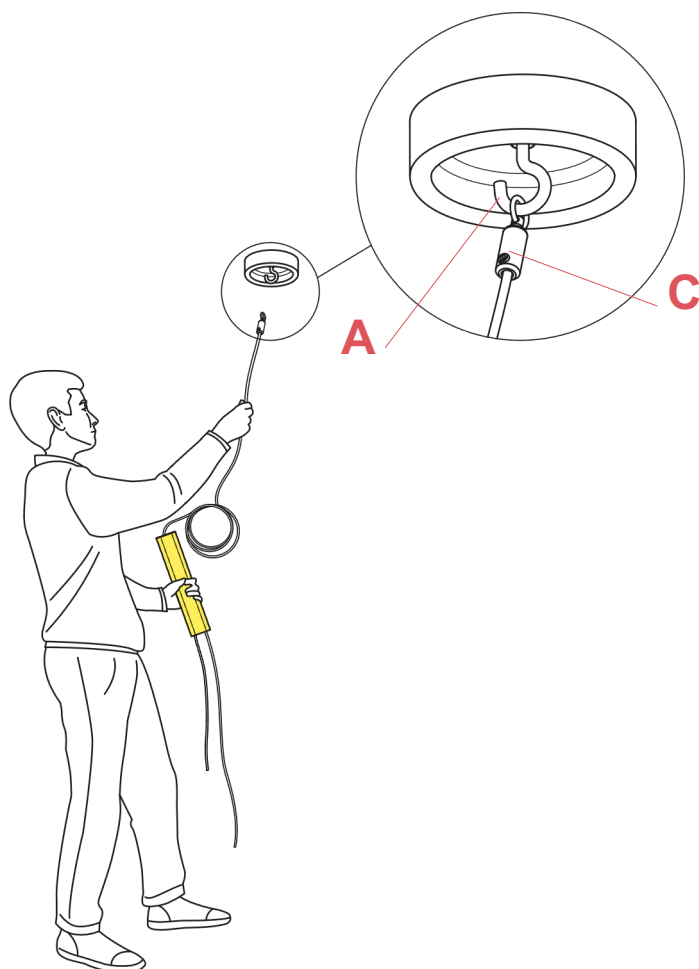

Fig.2
Hook the steel wire end (C) to the open ring (A).(Fig.2 page 9)